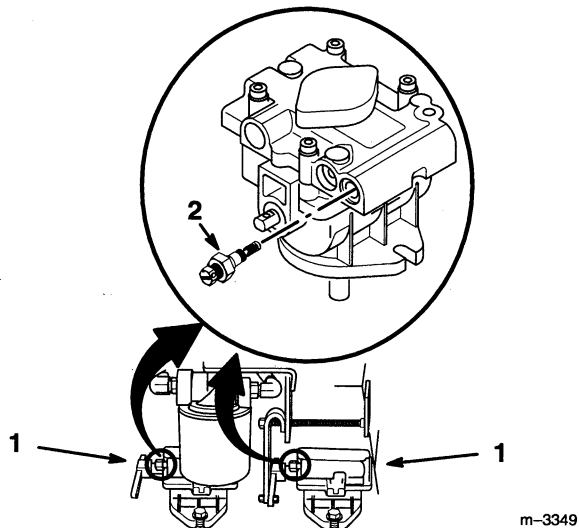

Figure 7
2. Thread new Kallevig by-pass valves into hydraulic pumps (Fig.7).